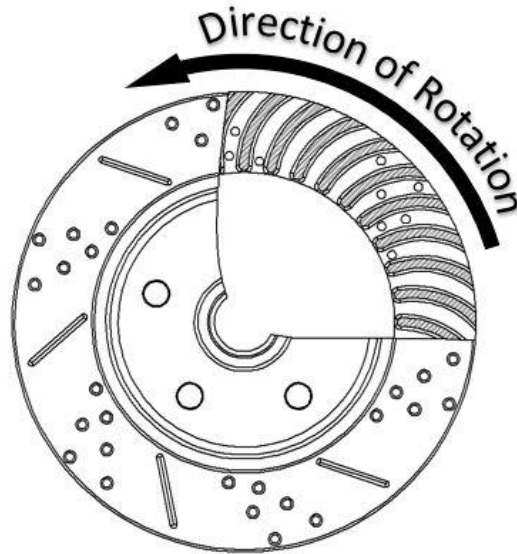

Figure 4 – Direction of Rotor Rotation
8. Place the correct LH or RH rotor onto the hub assembly. Use three lug nuts when installing to hold the rotor tight against the hub which will allow for accurate shimming of the calipers which will be done in a later step. When installing rotors, be sure to follow the direction of rotation indicated on the rotor hat area with either an arrow or with an "L" for driver side or an "R" for passenger side. Figure 4 below shows the direction for reference.